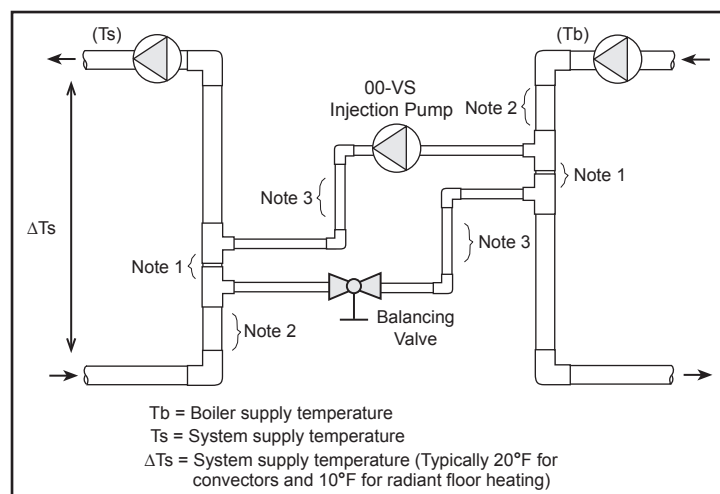

Fig. 1
When the injection pump is turned off, there must be no heat transfer from the boiler loop to the system loop. In order to avoid this unwanted heat transfer, primary/secondary piping techniques are used as shown in figure 1.
- 1) Determine the design operating temperatures of the system loop and boiler. (T_s and T_b from figure 1.)